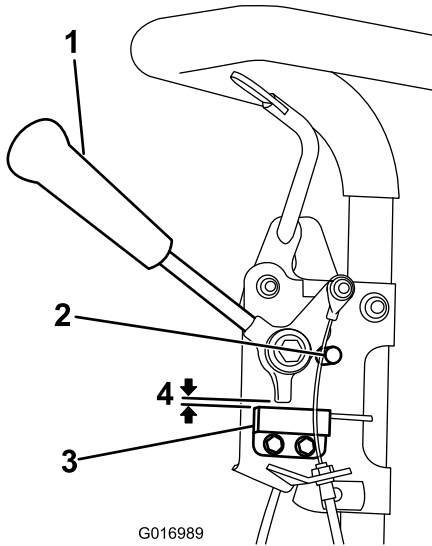

Figure 30
1. Make sure the engine is off and the traction lever is disengaged and resting against the neutral stop (Figure 30).
2. Loosen the interlock switch mounting fasteners (Figure 30).
3. Place a .032" thick shim between the traction lever and the interlock switch (Figure 30).